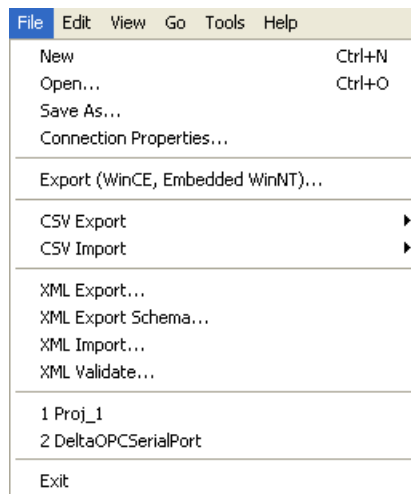

Figure 2-14 Menu bar - File
- **File:** It provides the functions needed for accessing config files, as shown in figure 2-14.